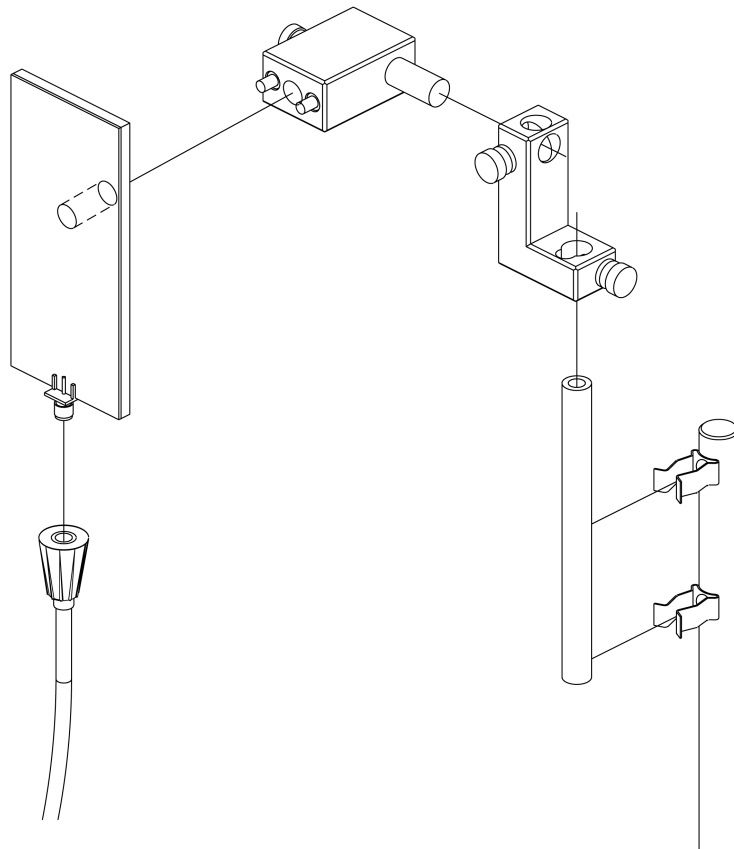

Figure 20. Set-up of the series-fed microstrip antenna in the H-plane.
- ☐ 10. Remove the receiving parallel antenna and install the series-fed microstrip planar array antenna on the mast, oriented in the H-plane as shown in Figure 20. Orient the transmitting antenna in the H-plane. Perform an acquisition and store the radiation pattern in a new document (Document3).